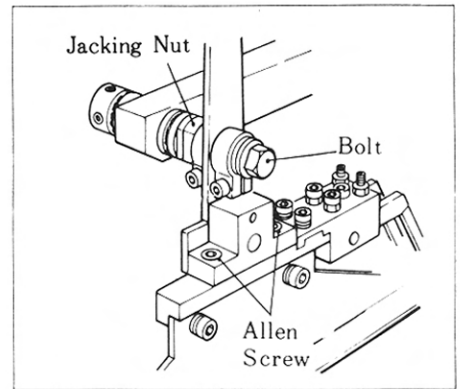

Figure 7
2. Patch Guide Adjustments (Figures 7, 8 and 9)
- To align the patch guide so that it is parallel to the clamp feet, loosen the two allen screws (see Figure 7) on top of the patch guide bracket. This will allow the patch guide to pivot for proper alignment. Spacing between the patch guide and the clamp foot should be approximately 1mm.
- To center the patch guide to the needles, loosen the collars on the front of the patch guide pivot arm. To move the patch guide to the right, screw the jacking nut (left side of the left collar) counterclockwise. To move to the left, turn the jacking nut clockwise and tighten the bolt at the shaft right end (see Figure 7).